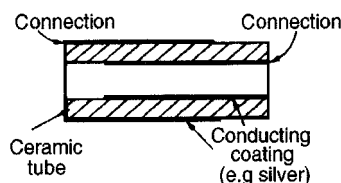
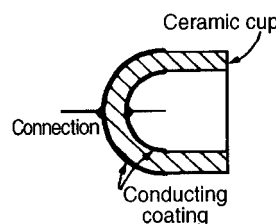
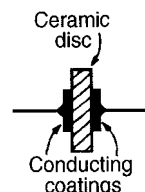

Figure 6.16
Figure 6.17
Figure 6.18
4. **Ceramic capacitors.** These are made in various forms, each type of construction depending on the value of capacitance required. For high values, a tube of ceramic material is used as shown in the cross section of Fig. 6.16. For smaller values the cup construction is used as shown in Fig. 6.17, and for still smaller values the disc construction shown in Fig. 6.18 is used. Certain ceramic materials have a very high permittivity and this enables capacitors of high capacitance to be made which are of small physical size with a high working voltage rating. Ceramic capacitors are available in the range 1 pF to 0.1 μ F and may be used in high frequency electronic circuits subject to a wide range of temperatures.